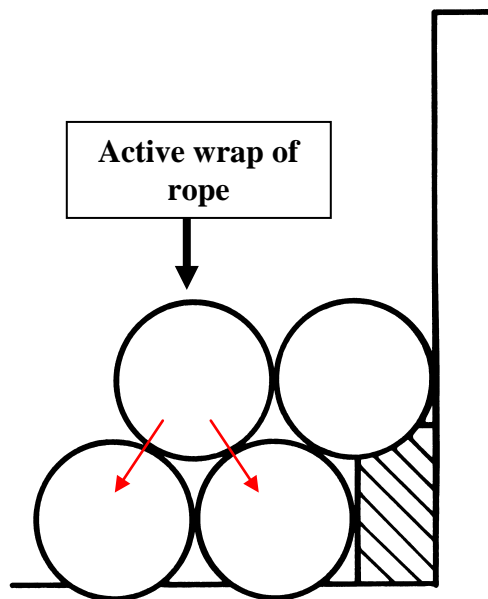
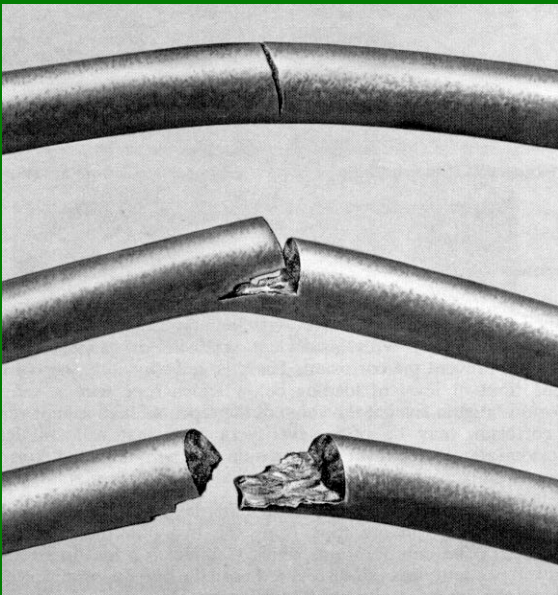

Fig. 1 – Dead wraps under pressure from active rope
Fig. 2 – Straight line damage on a dead wrap
1. The wear on these stationary "dead" wraps is greatest where the upper layers "Cross-over" especially at the spot where the loud "snap" is heard as the rope rises from one layer to the other. The working length of the rope has the advantage of rotating so the wear is distributed around the rope circumference. But on the dead wraps, the same surface takes the abuse each time. Very often, the short section of rope coming out of the drum spout may be the most vulnerable. An active wrap will rest in between two dead wraps and will cause a very distinct, straight line wear pattern on each wrap. The following sketch (Fig. 1) shows the pressure points and Fig. 2 shows the resulting straight line damage on a dead wrap.